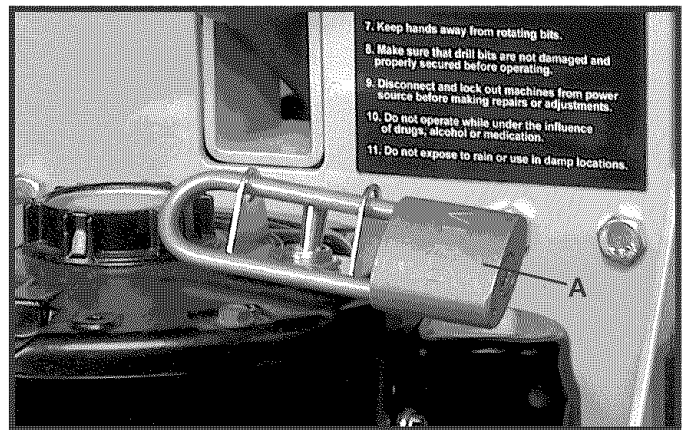

Fig. 48
IMPORTANT: When the machine is not in use, the switch should be locked in the OFF position using a padlock (A) Fig. 48, with a 3/16" diameter shackle to prevent unauthorized use.